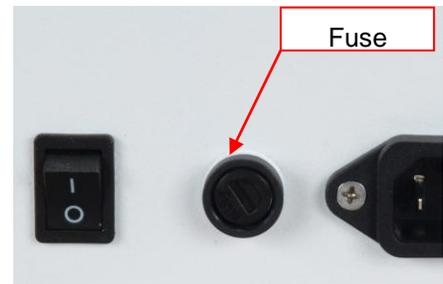

Fig.2
- 5) Put the fuse holder back, press and turn it clock wise. See **Fig. 2**.